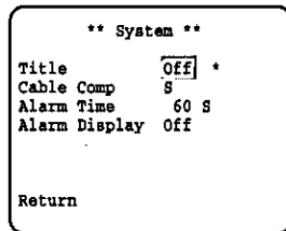

Fig. 20
1. Display the System Menu as shown in Fig. 20 by repeating the previous procedures.